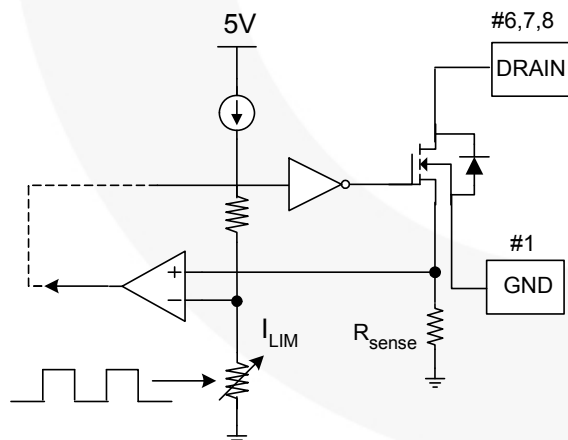

Figure 16. Soft-Start Function
**5. Soft-Start:** The FPS internal soft-start circuit slowly increases the SenseFET current after startup, as shown in Figure 16. The typical soft-start time is 10ms, where progressive increments of the SenseFET current are allowed during the startup phase. The pulse width to the power switching device is progressively increased to establish the correct working conditions for transformers, inductors, and capacitors. The voltage on the output capacitors is progressively increased to smoothly establish the required output voltage. This helps to prevent transformer saturation and reduces the stress on the secondary diode during startup.